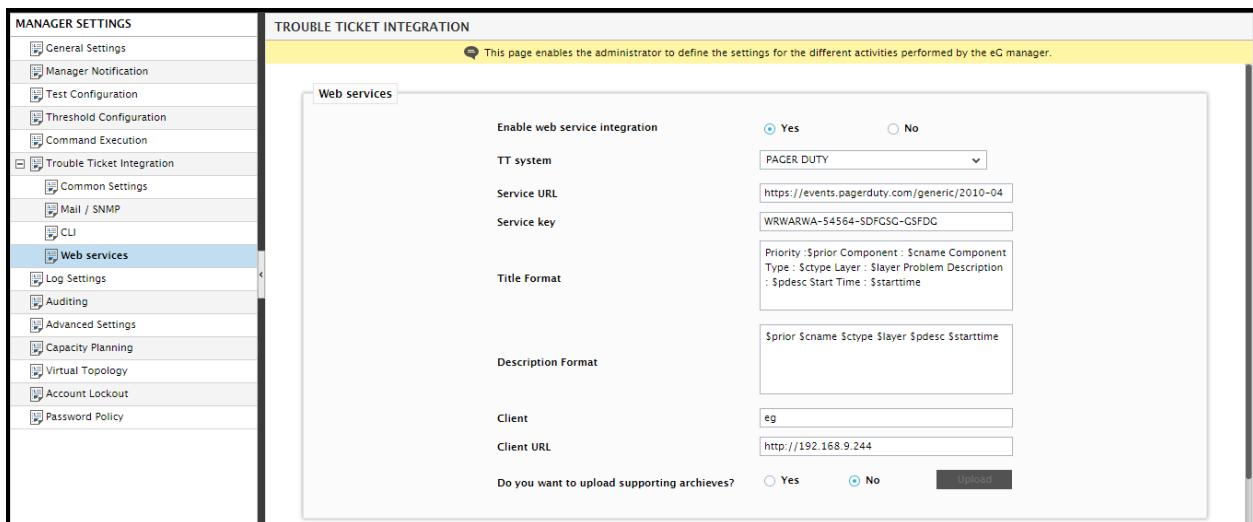

Figure 5.9: Integrating the eG manager with PagerDuty
- Next, select the **Web services** sub-node within. The right panel will change as shown by Figure 5.9 below.
5. To enable integration via the web services interface of PagerDuty, set the **Enable web service integration** flag in Figure 5.9 to **Yes**. By default, this is set to **No**.
9. Finally, click the **Update** button in Figure 5.9.